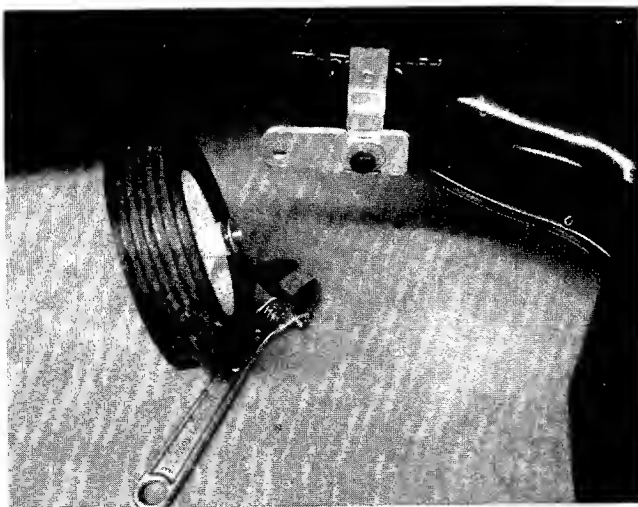

FIGURE 5.
1. Assemble the deck wheels to the pivot bars using the shoulder bolts and the belleville washers. (See figure 5.)